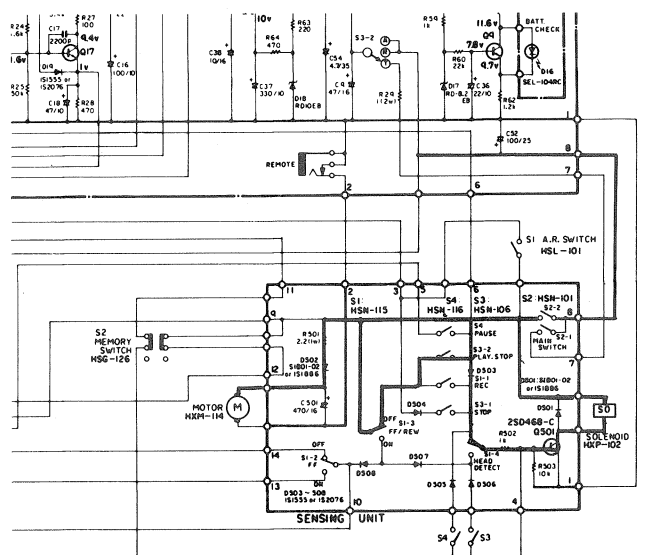

Fig. 8 — PLAY position connection.
- 1-7. The head detect switch (S1-4) goes OFF and Q501 also turns off. Refer to Fig. 8.